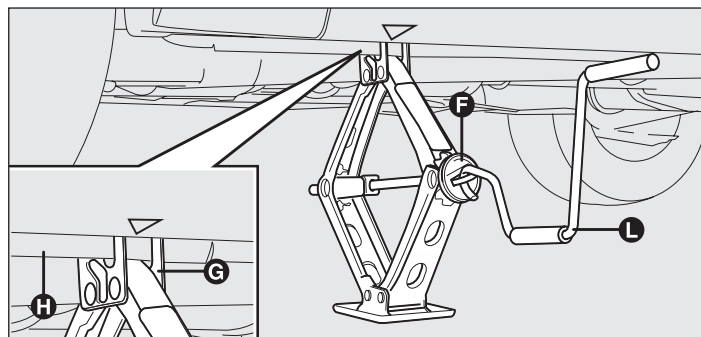

fig. 153
- ☐ operate device F-fig. 153 to extend the jack until the top of the jack G-fig. 153 fits correctly into jacking point H-fig. 153;
- ☐ fit the handle L-fig. 153 to operate the jack and lift the car until the wheel is several centimetres off the ground;
- ☐ turn the jack handle L-fig. 153 to lower the car, and remove the jack;